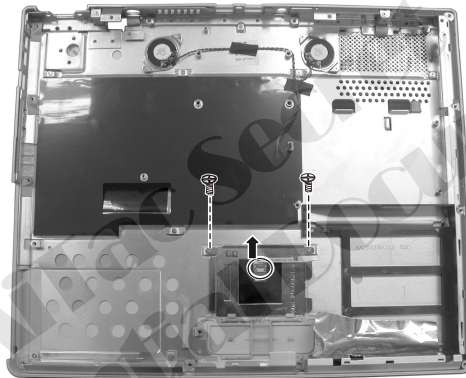

Figure 2-27 Free the touch pad
2. Remove the two screws and disconnect the cable, then free the touch pad. (Figure 2-27)